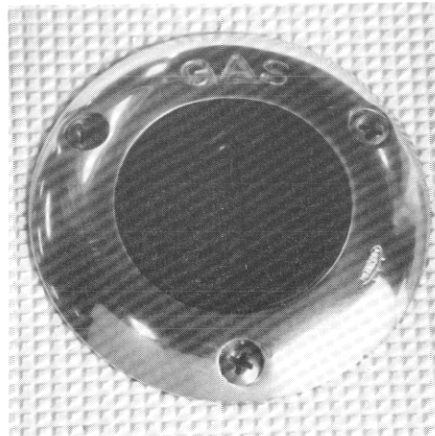

Figure 12
5. A special key to unlock the fuel cap is given to you. Insert the key in the slot in the fuel cap. The fuel cap is in the covering board on the port side of the boat. See figure 12.